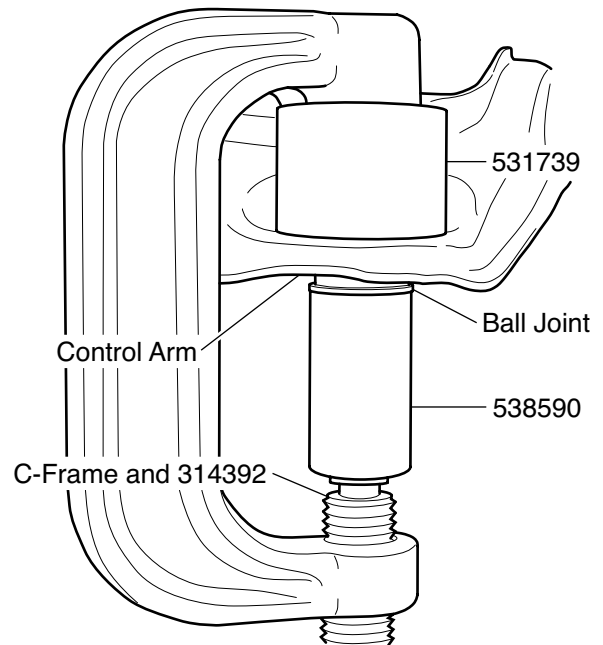

Figure 1. Ball Joint Removal
4. Position C-Frame and 314392 as shown in Figure 1.